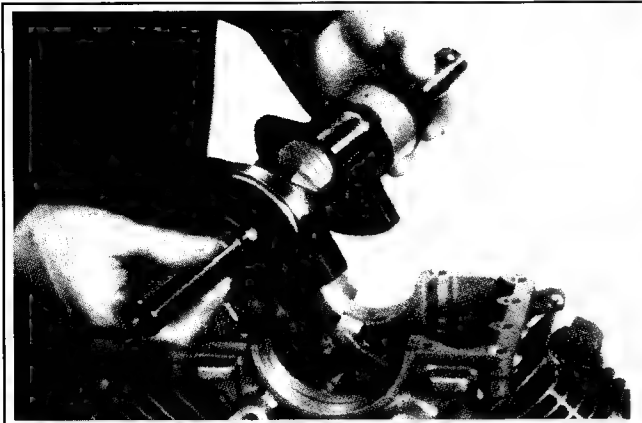

Figure 9-54. Removing Crankshaft Assembly.
1. Lift the crankshaft assembly straight up out of the crankcase half. See Figure 9-54.